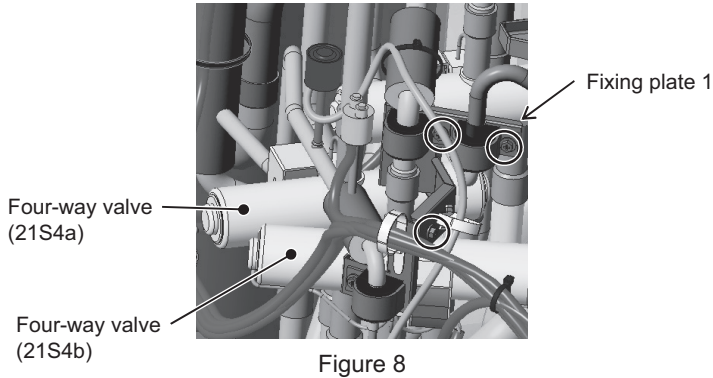

Figure 8
- (1) Remove the front heat exchanger. Refer to [8-14-12 Maintenance Procedures for the Heat Exchanger <Type A(1/2)/Type TR(2)/Type RU2>] for details.
- (2) Remove the top, front, and right compressor covers. Refer to [8-14-7 Compressor Replacement Procedure <Type A>] or [8-14-8 Compressor Replacement Procedure <Type A1/A2/Type TR(2)/Type RU2>] for details.
- (3) Remove the fixing plate 1 above four-way valve (21S4b), saddle, and rubber spacer by unscrewing the three screws shown in Figure 8.